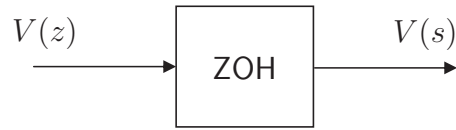

Figure 1: From discrete to continuous
Use the block shown in Fig. 1 to go from  $V(z)$  to  $V(s)$ . Equations (7), (8) and (9) are implemented in LoadSim block which is readily available to you.